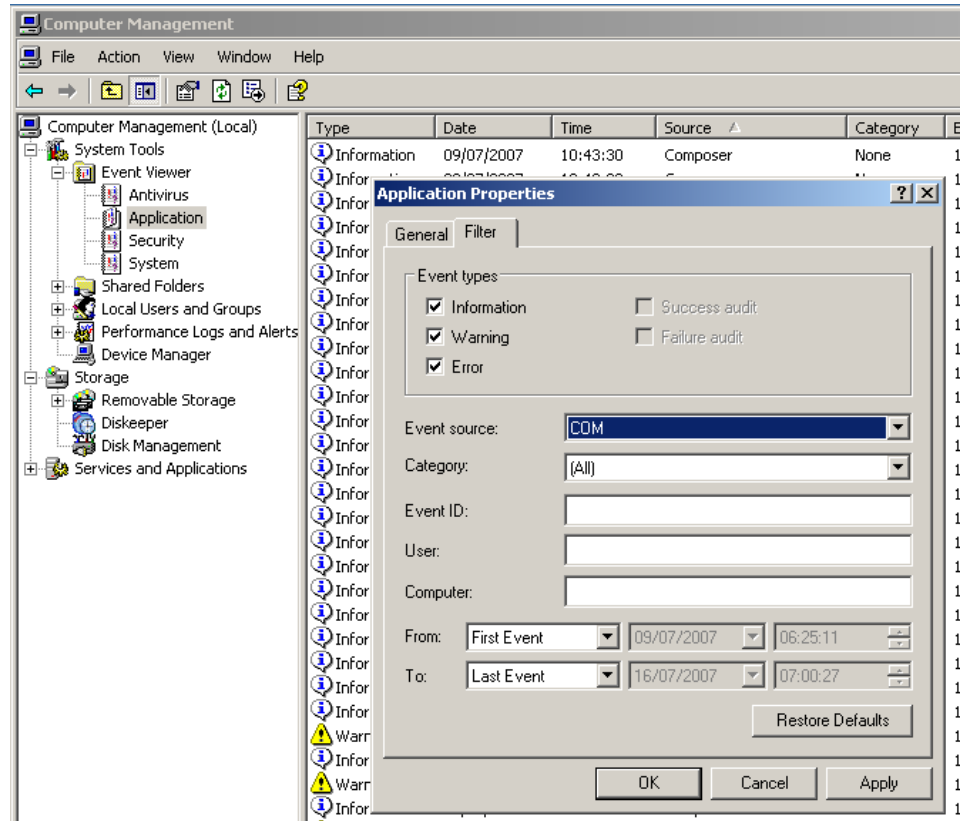

Fig 49 Event Viewer
- In the list that appears on the right hand side of the Console window, look for the events related to the COM and COM+ sources (Fig 49). Note that you can sort and filter the event list in various ways. For more information, please refer to the Computer Management Console on-line help (see the Event Viewer section).